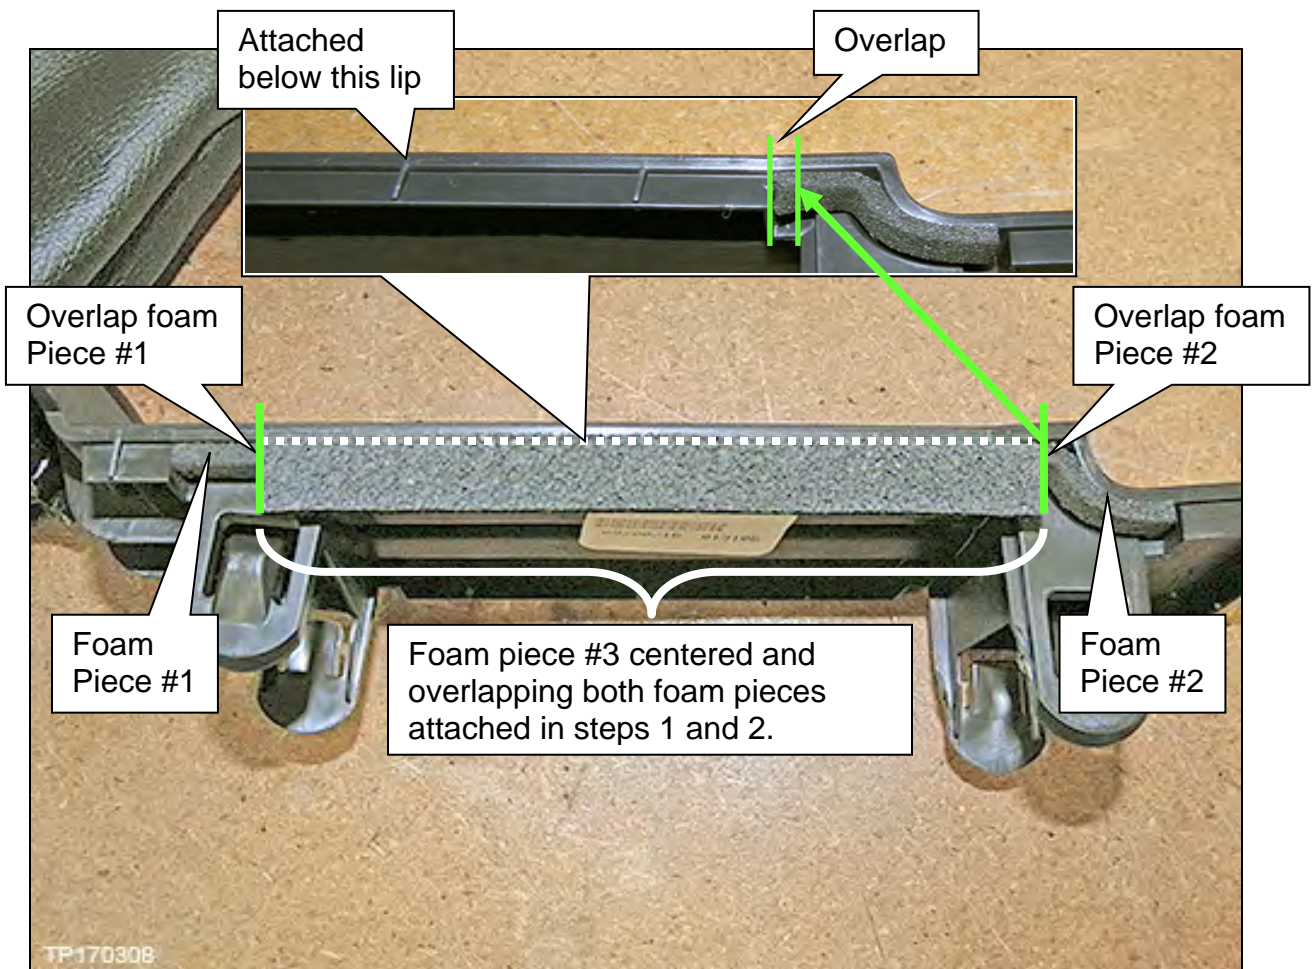

Figure 4A
3. Attach two (2) foam pieces (one on each side) to the parking brake finisher one at a time as follows (Figure 4A).
NOTE: In Figure 4A the left side is shown. Right side is similar.